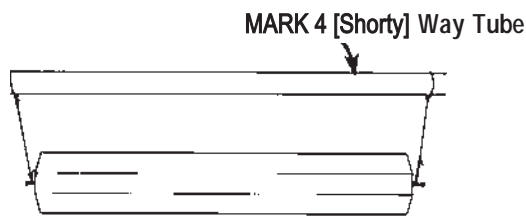

Figure C-41
2. To do this, drive a standard 8-penny nail straight into each center. Use suitable string to hang the stock in a level position from the front bench tube of the MARK 4 [Shorty] or a saw horse. The ends of the string should be looped around the nails. See Figure C-41. Gravity will pull the heavy side down. Use a jointer, bandsaw or hand plane to remove no more than 1/32" at a time from the heavy side until the stock remains stationary when rotated to three positions 90 degrees apart.